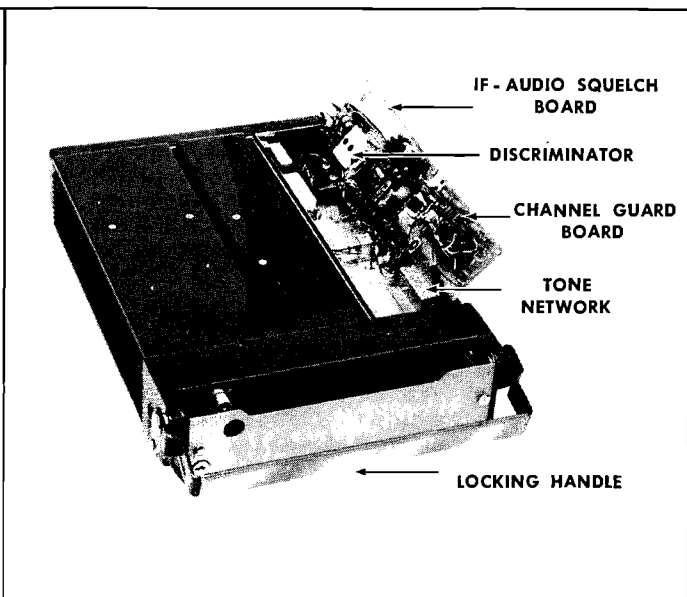

Figure 4 - Removing Bottom Cover
1. Pull locking handle down. Pull radio out of mounting frame. (see Fig. 4).